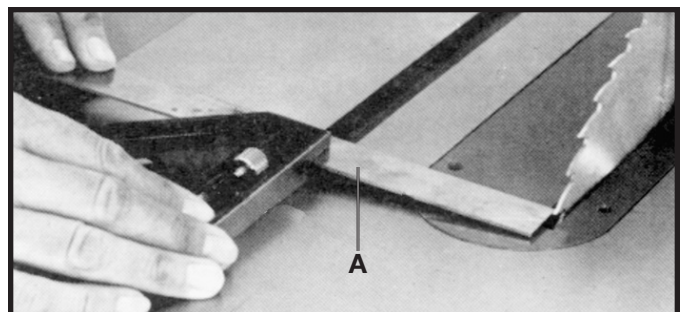

Fig. 44
1. Place a combination square (A) Fig. 44, on the table with one edge of the square in the miter gage slot, as shown, and adjust the square so the rule just touches one of the teeth on the saw blade at the forward position, as shown in Fig. 44. Lock the square in this position.